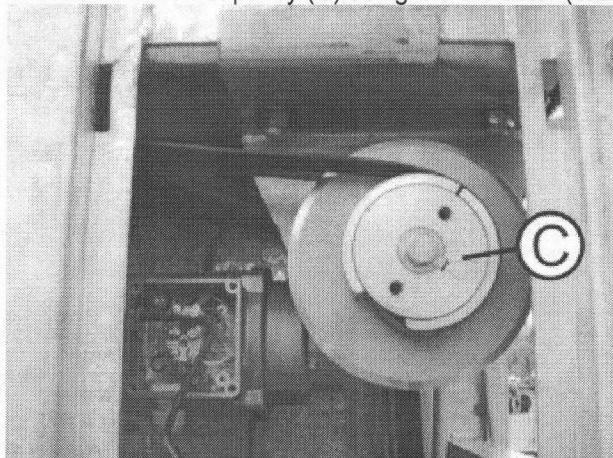

Fig. 079
6. Extract first pulley (C) using the extractor (4.263-030) from the shaft (Fig. 079).